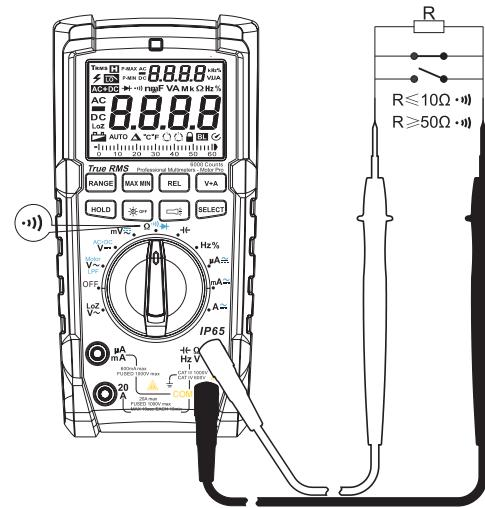

Figure 3a
**6. Resistance and Circuit Continuity Measurement (See Figure 3a+3b)**